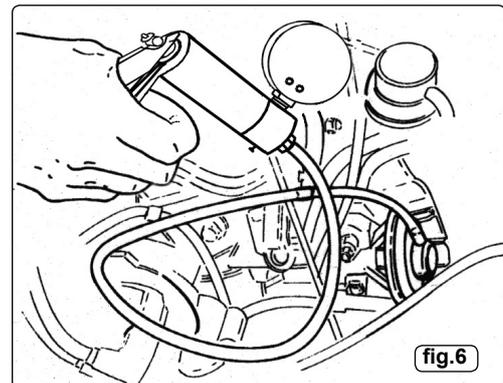

fig.6
5.4.3.1. Start engine and run at idle until normal operating temperature is reached. Remove the vacuum line from the EGR valve and attach the vacuum tester kit (fig.6). Operate the hand pump to apply approximately 15inHg of vacuum. If the EGR Valve is working correctly the engine idle will become rough. If the idle remains unchanged the valve is possibly seized in the closed position. If the vacuum is not held, the diaphragm in the valve has failed.